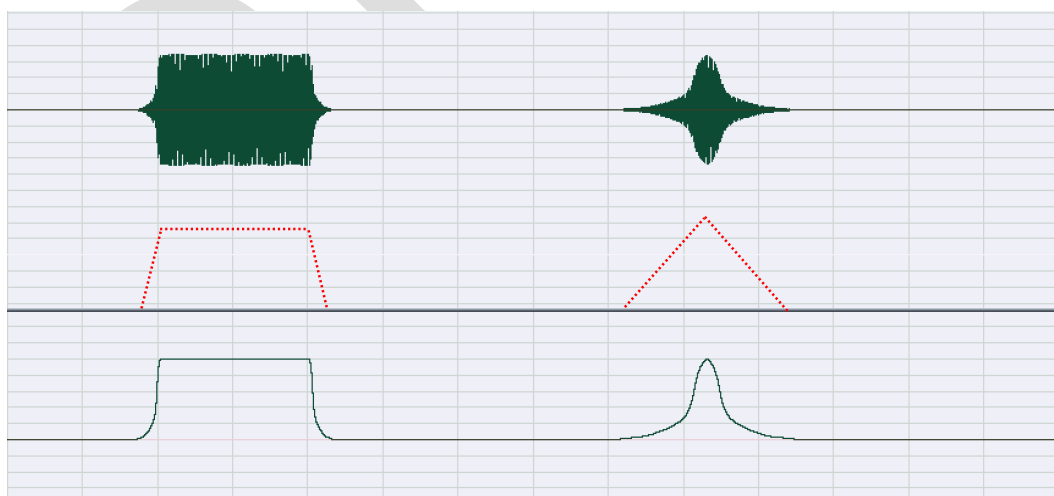

Figure 7 – Exponential grain envelope
*Exp Envelope*: with this choice, the envelope shape will be the one relating to a decreasing exponential function as shown in Figure 7.